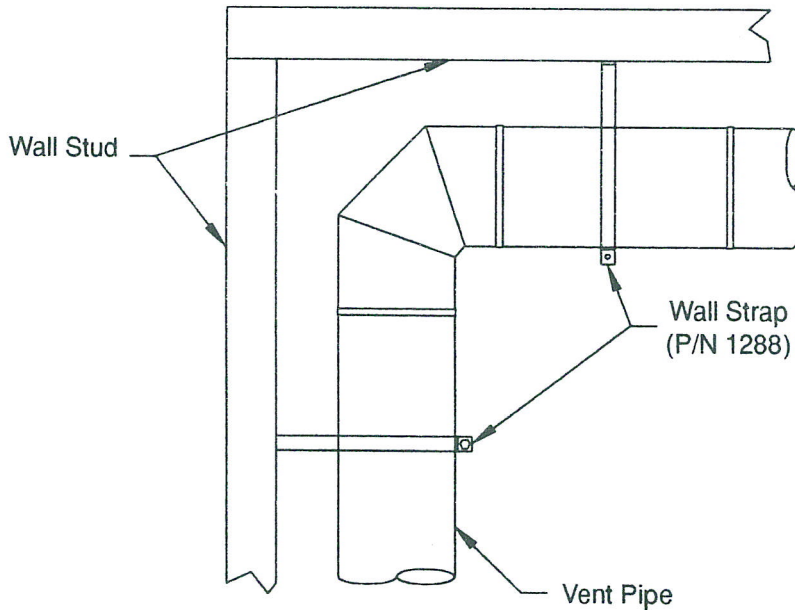

Figure 16: Installing Pipe Supports
5. Where necessary add support brackets. Refer to Figure 16.